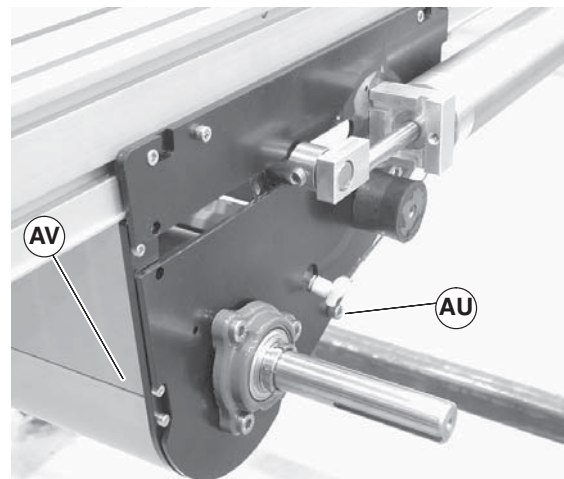
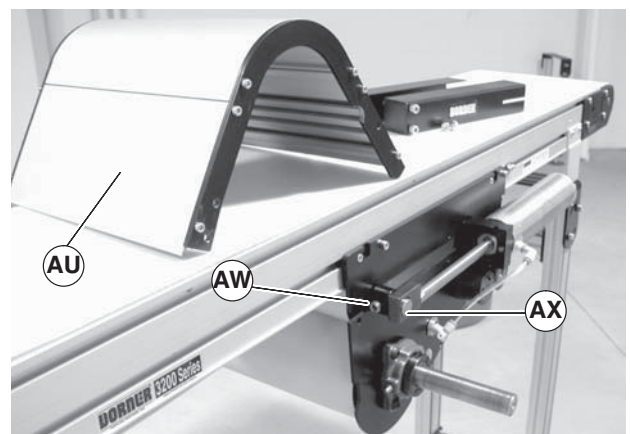
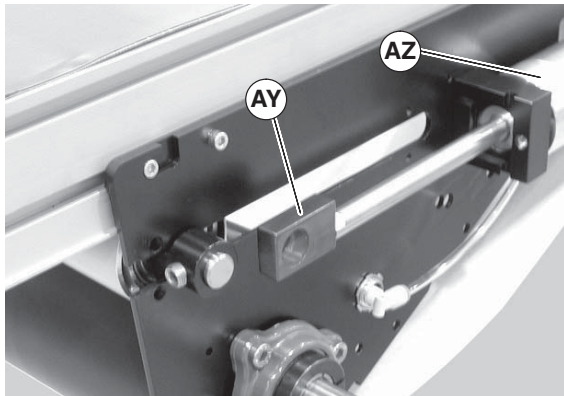

Figure 63
Figure 64
Figure 65
3. Temporarily support the tensioning roller guard (Figure 63, item AV). Remove screws (AU) on both sides of center drive and remove tensioning roller guard (Figure 63, item AV) and (Figure 64, item AV).
4. Loosen tensioning roller set screws (Figure 64, item AW) on one side of center drive.
5. Push shaft (Figure 63, item AX) through block, slide block (Figure 65, item AY) towards air cylinder (AZ).